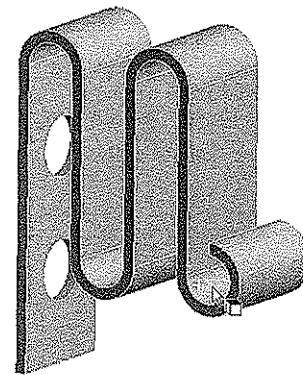

Figure 9-47 Selecting the circular face of the model
- Next, select the circular face on the right of the model, as shown in Figure 9-47.